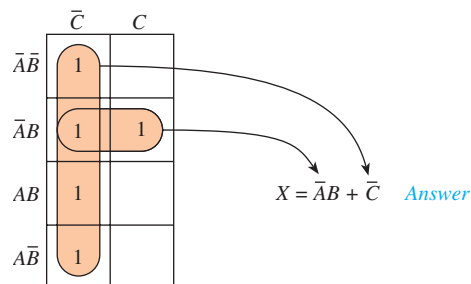

Figure 5–89 Karnaugh map and final equation for Example 5–28.
1. Construct an eight-cell K-map (see Figure 5–89), and fill in a 1 in each cell that corresponds to a term in the original equation. (Notice that $\overline{A}B$ has no C variable in it. Therefore, $\overline{A}B$ is satisfied whether C is HIGH or LOW, so $\overline{A}B$ will fill in two cells: $\overline{A}BC + \overline{A}\overline{B}\overline{C}$.)